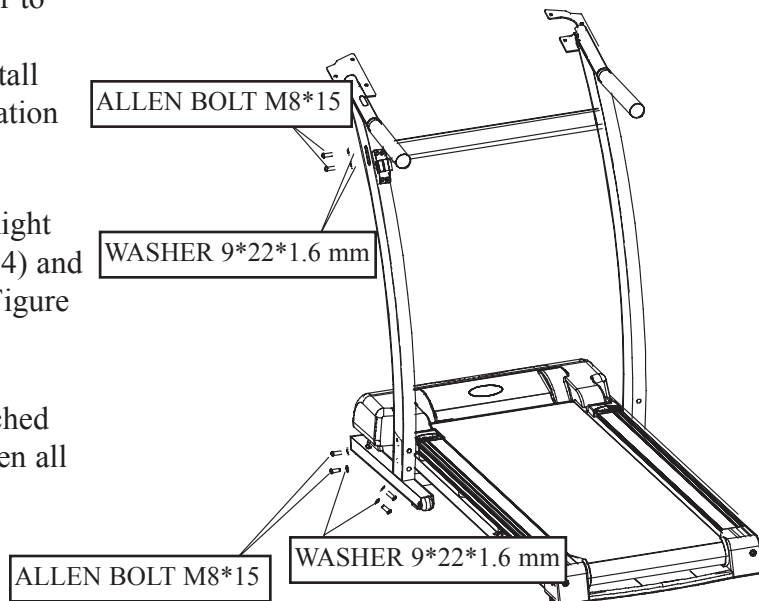

Figure 6: Hardware Installation
5. Attach Left Upright and Right Upright to base frame using Allen Bolts M8*15 (Qty. 12) and Washer 9*22*1.6 mm (Qty.12). Refer to Figure 6.
6. Attach Upright Crossbar to Left and Right Uprights using Allen Bolts M8*15 (Qty. 4) and Washer 9*22*1.6 mm (Qty.4). Refer to Figure 6.